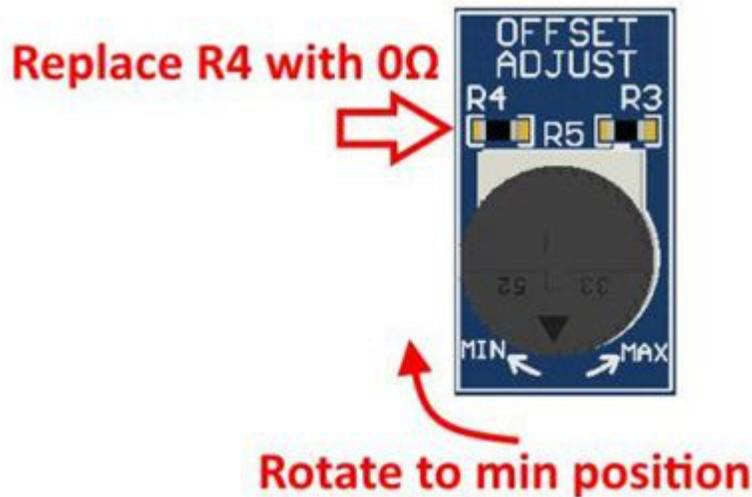

Figure 6. LDC0851EVM Modifications for Basic Operation
Step 4: Enable basic operation mode by making the modifications to the LDC0851EVM shown in Figure 6.